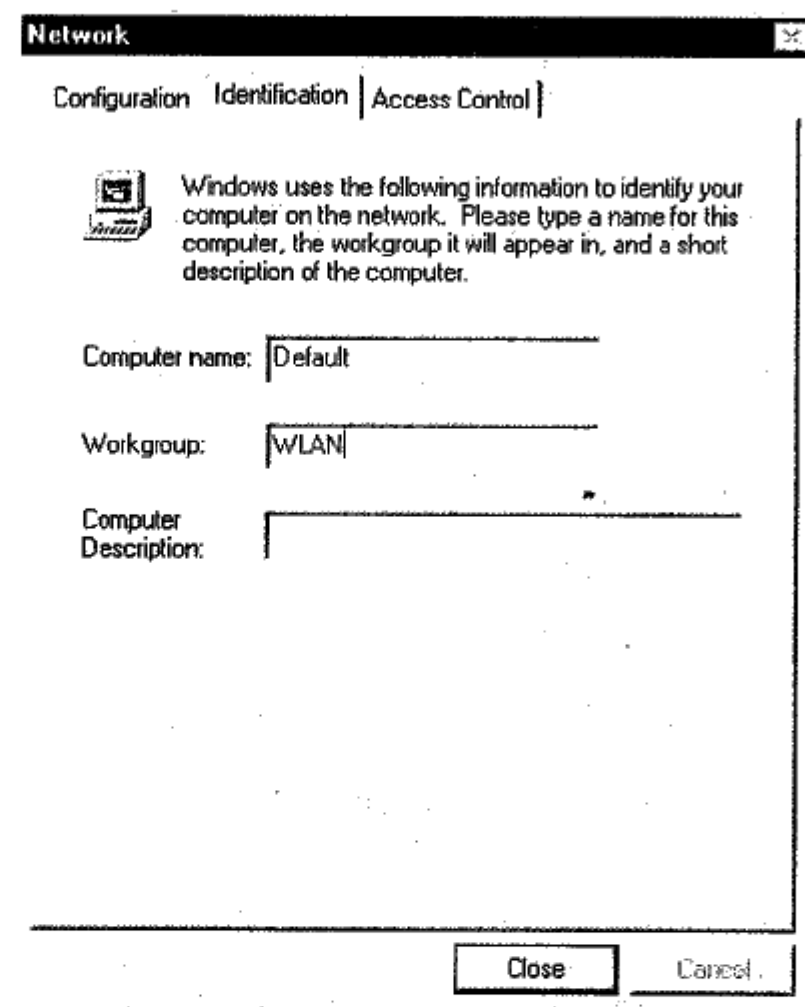

Figure 3-4
6. Click "OK" to bring out the "Network/Identification" window as shown in Figure 3-4. The description field may be left blank. Enter a computer name, workgroup name and click "Close".